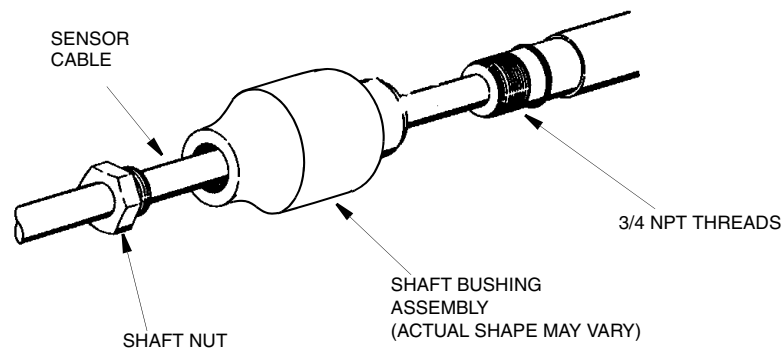

Figure 5. Assembly of Shaft Bushing to Sensor
1. Feed the sensor cable through the shaft bushing assembly and the shaft assembly. Screw the shaft bushing assembly onto the sensor. Tighten the set screws to the 3/4 NPT end of the sensor. (see Figure 5)